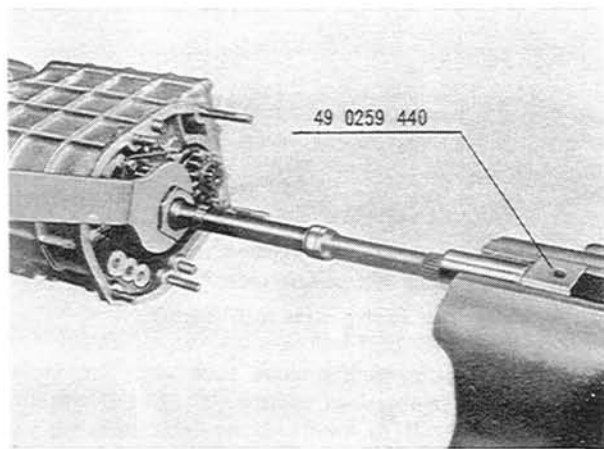

Fig. 7-4 Loosening lock nut
11. Mount the main shaft assembly on the **main shaft holder** (49 0259 440) as shown in Fig. 7-4 and loosen the reverse gear lock nut, and remove lock nut, lock washer, reverse gear and key.